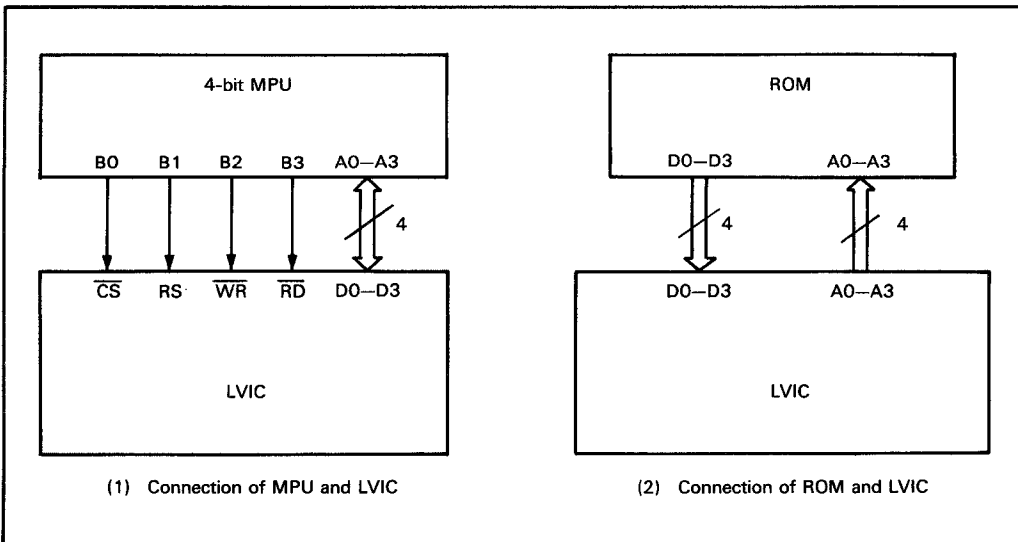

Figure 3. Connection of MPU or ROM and LVIC
Internal Register Programming Method: In the internal register programming method, an MPU or ROM writes data into internal registers to control functions. Figure 3 illustrates the connections of MPU or ROM and the LVIC. Figure 3 (1) is an example of using a 4-bit microprocessor, but since the LVIC's MPU bus is compatible with the 4-MHz 80-family controller bus, it can also be connected directly with the bus of host MPU.